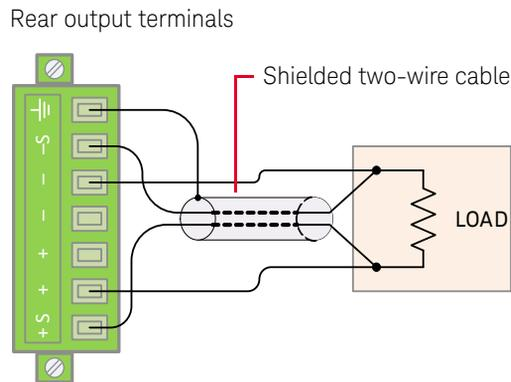
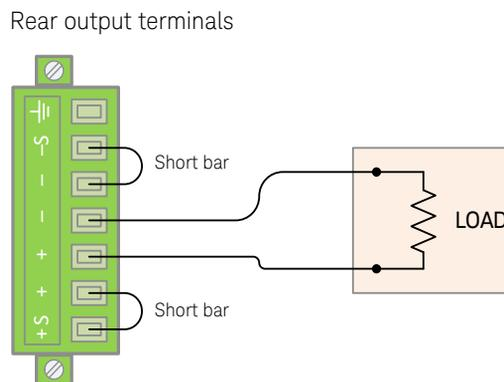

Figure 3-1 Remote sensing connections
Figure 3-2 Local sensing connections
- 4 Loosen the top screws with a slotted screw driver and connect the rear output terminal block sensing (S+ and S-) and output (+ and -) terminals to the load as shown in Figure 3-1 using a shielded two-wire cable.
The sensing outputs (S+ and S-) must not be left unconnected. It must be connected locally (Figure 3-2) or remotely (Figure 3-1).
- 2 Remove the connections between the U3606B sensing (S+ and S-) and output (+ and -) terminals. Using a shielded two-wire cable, connect the U3606B sensing terminals to the load as shown in Figure 3-1. Observe the polarity when connecting the sensing leads to the load.